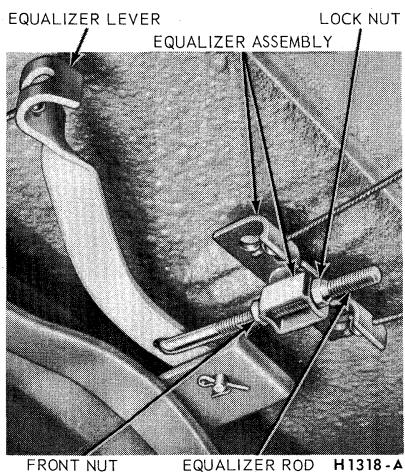

FIG. 5—Parking Brake Cable Adjustment
lever cable is routed to the equalizer lever (Fig. 5), which through the equalizer assembly and brake cables connects to the parking brake lever assembly in each rear wheel.
Place the parking brake lever in the fully released position, then check for slack in the parking brake two rear cables (Fig. 5).
1. Raise the truck on a hoist. Push the equalizer lever slightly forward, and disconnect the cable rear (ball) end from the lever (Fig. 5).